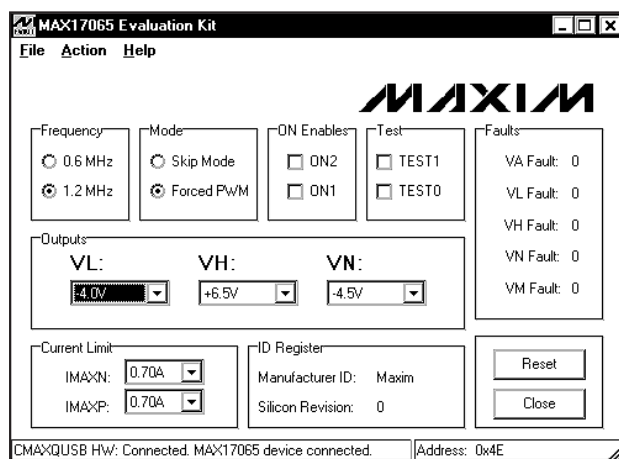

Figure 1. MAX17065 EV Kit Software Suggested Setup
- 10) Set the switching frequency = 1.2MHz, negative SMPS = -4.5V, positive and negative current limits = 0.7A, positive charge-pump output = +6.5V, and negative charge-pump output = -4V (Figure 1).